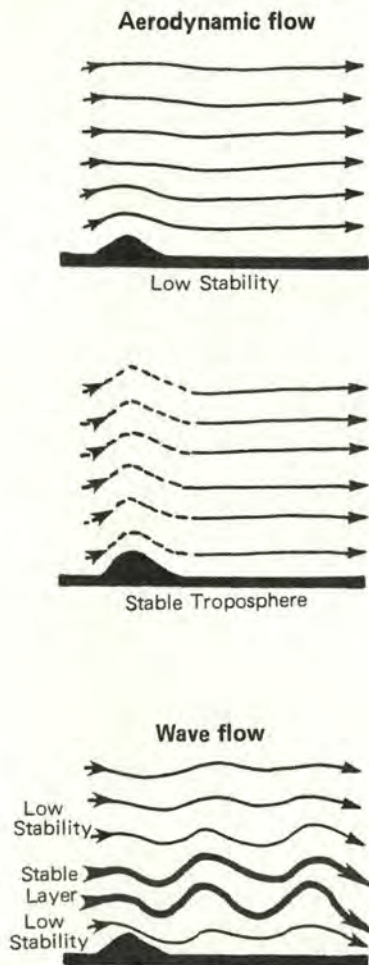

Figure 1
■ **Temperature variation.** Mountain wave development is very dependent on the temperature profile of the atmosphere. The temperature profile that supports strong wave development has three divisions. The upper and lower levels of the atmosphere will have weak stability while the midlevels will be very stable. Flow in the middle layer will be disturbed over the mountain and the wave will develop. Since the upper and lower levels are unstable, they won't dampen the waves and will allow them to increase in amplitude and continue farther downwind. (See Figure 1.)